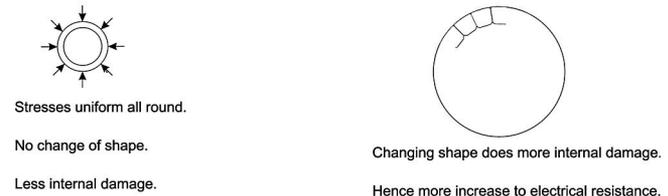

Fig. 3 — Deformation during compacting.
**1. Quality of the Conductor Body:** Friction is the enemy of most things in cable compacting. We tend to think of compacting as a light and easy finishing process, but actually it is an extremely difficult process in which a cone of individual wires are brought into the compacting die at an angle of up to 30°, which greatly increases the contact length of the wires on the die surface. Hence friction is immediately increased on the wires forming the outer layer. Then the wires in the outer layer are significantly deformed, beginning at the line of contact with the compacting die. In a drawing process, the stresses and deformations are uniform around the full 360° of the cross section, but in compacting, we put flat surfaces on the cross-section, creating the classic “trapezoidal” cross sectional shape (see **Figure 3**). If the friction forces are appreciable, this extreme deformation causes damage which extends deep below the surface of the conductor, due to the additional frictional shear forces. The damage to the metal is done internally at the microscopic level. The scientific name for this damage is called crystal dislocation. The result is work hardening (familiar) and increase in electrical resistance or reduced electrical conductivity (not so familiar).